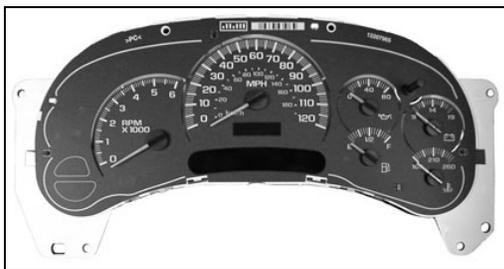

Figure 4
- A. Rotate pointer **counter-clockwise** until they reach their internal-gear stop (see figure 4- to note locations of pointers).